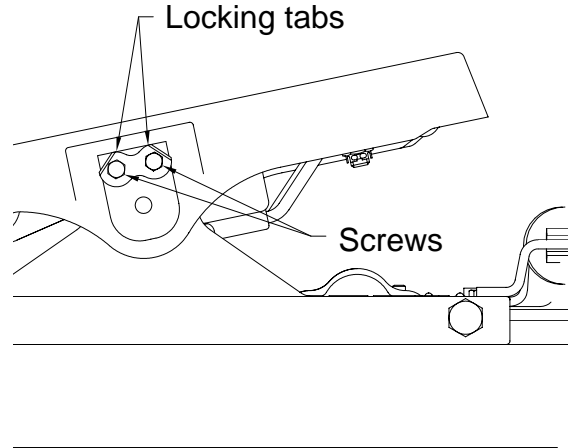

Figure 1
9. Install the topllate assembly removed in step #1 above sure to secure the locking tabs as shown in Figure 1.